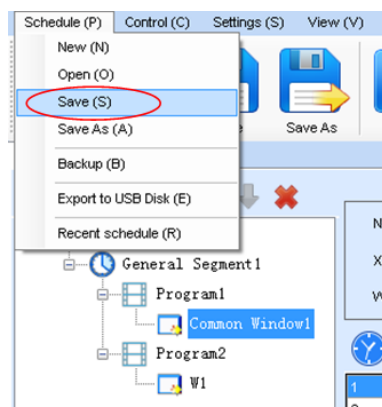

Figure 4-27 Saving a Playing Solution File
**Save:** After a playing solution is created, you can click **Schedule** on the toolbar and select **Save** or **Save As** to save the playing solution in the format of **xxxx.plym**. See Figure 4-27: